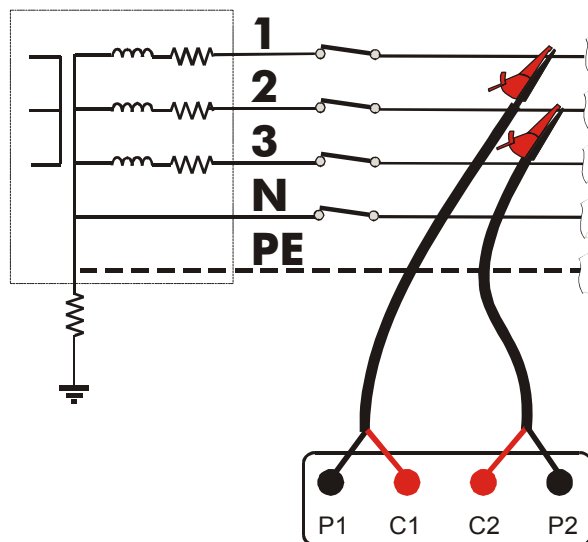

Fig. 3: Instrument connection for phase to phase impedance measurement
2. Connect the alligator clip to the Electrical plant according to Fig. 3.
3. Insert the 4 safety connectors into corresponding instrument's inputs **according to sequence P1, P2, C2, C1** (see Fig. 3).